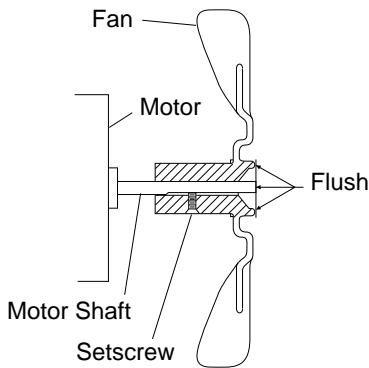
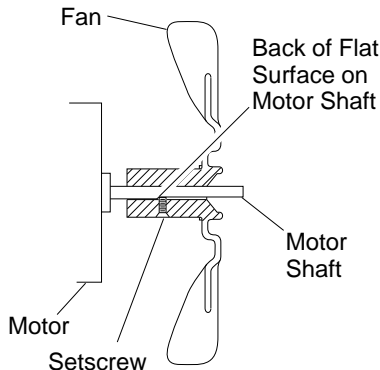

Figure 9 - Fan Cross Section 35/55/110,000 BTU/Hr Models
Figure 10 - Fan Cross Section 150,000 BTU/Hr Model
6. (35/55/110,000 BTU/Hr Models) Replace fan on motor shaft. Place fan hub flush with end of motor shaft (see Figure 9). (150,000 BTU/Hr Model) Replace fan on motor shaft. Make sure set screw is touching back of flat surface on motor shaft (see Figure 10).